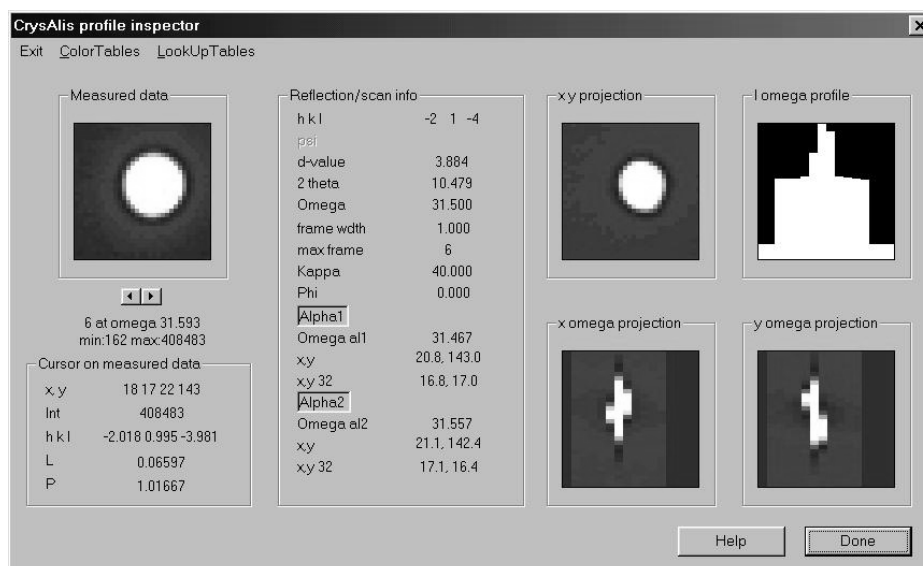

Figure 6.5.7 Screenshot of CrysAlis profile inspector window
6. Click on the button **Profile**. A window like Figure 6.5.7 should appear.